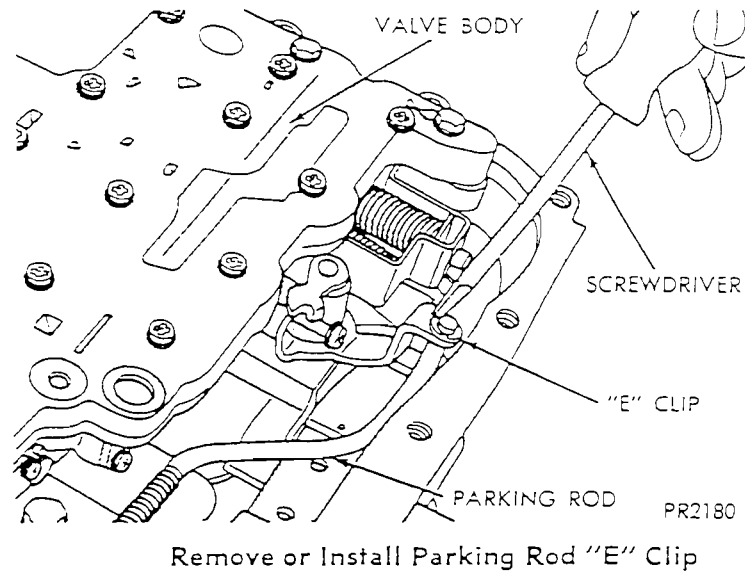

Figure 4
2. Remove the "E" clip retaining the park sprag rod to the valve body (Figure 4).